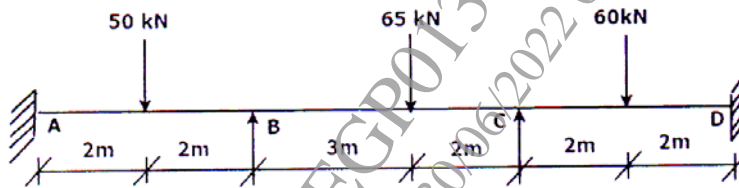

Figure 8
- Q5) a) Analyse the continuous beam as shown in figure 8 by stiffness method. Assume same flexural rigidity of all members. [12]